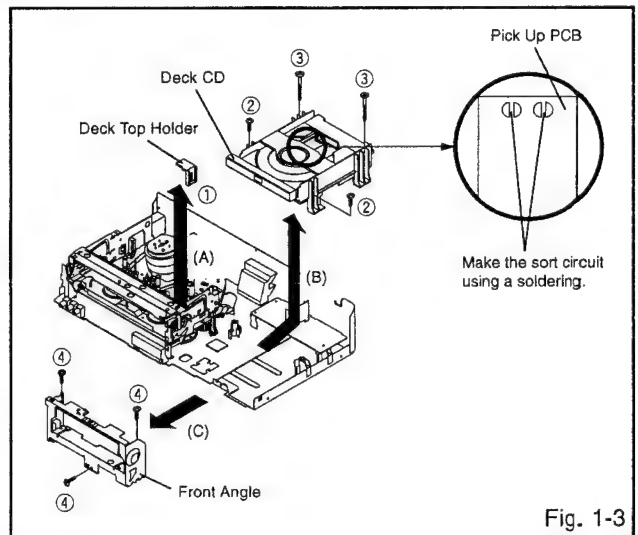

Fig. 1-3
1-3: DECK CD (Refer to Fig. 1-3)
1. Make the short circuit on the position as shown Fig. 1-3 using a soldering. If you remove the Deck CD with no soldering, the Laser may be damaged.
2. Unlock the support ① and remove the Deck Top Holder in the direction of arrow (A).
3. Remove the 2 screws ②.
4. Remove the 2 screws ③.
6. Remove the Deck CD in the direction of arrow (B).
7. Remove the 3 screws ④.
8. Remove the Front Angle in the direction of arrow (C).